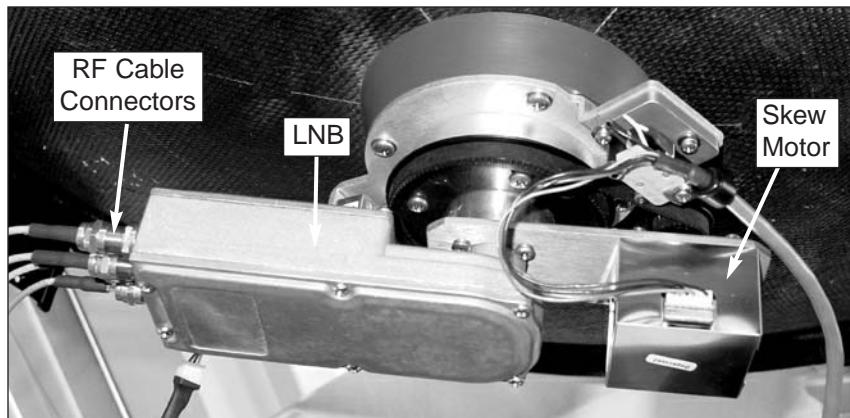
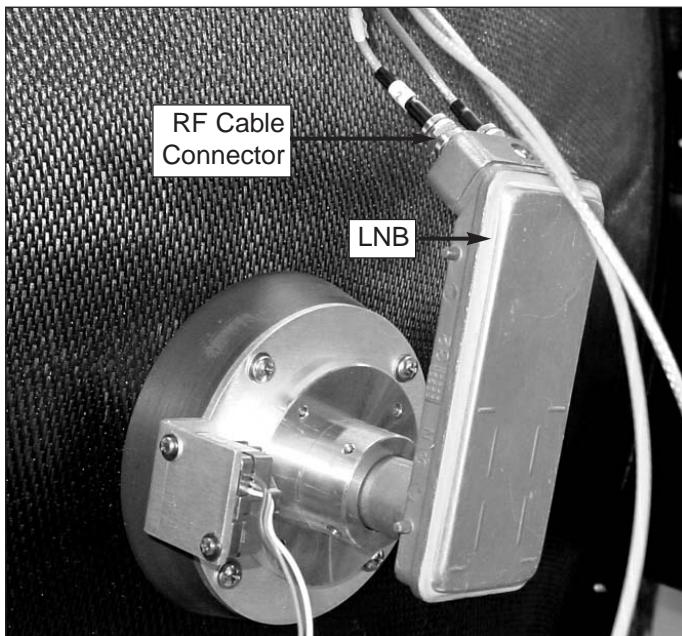

Figure 5-38
Figure 5-44
1. Using a $\frac{1}{16}$ " wrench, carefully disconnect the RF cables from the LNB. (Figure 5-43 shows a North American-style LNB; Figure 5-38 on page 117 shows a European-style LNB).
1. Using a $\frac{7}{16}$ " wrench, carefully disconnect the RF cables from the LNB. (Figure 5-44 shows a North American-style LNB; Figure 5-38 on page 117 shows a European-style LNB).